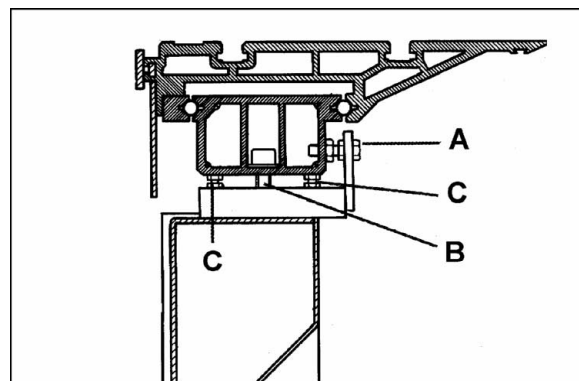

Figure 7
- Use a hoist or forklift with slings to lift the sliding table from its crate. Place the sliding table on to the frame with the two lateral adjustment bolts (A, Figure 7) in the two lugs placed at the front of the frame.
- Place the four socket head cap screws (B, Figure 7) into the lower section of the sliding table. NOTE: Prevent the table from flipping over when sliding away the upper section of the sliding table.
- Tighten firmly the four socket head cap screws (B, Figure 7).
- The eight small height-adjustment bolts (C, Figure 7) are pre-set at the factory.
- Unlock the four socket head cap screws (B, Figure 7) and adjust with one of the two parallel adjustment bolts (A, Figure 7).
- Tighten the four cap screws (B, Figure 7) with a torque of 60 foot pounds (80Nm).